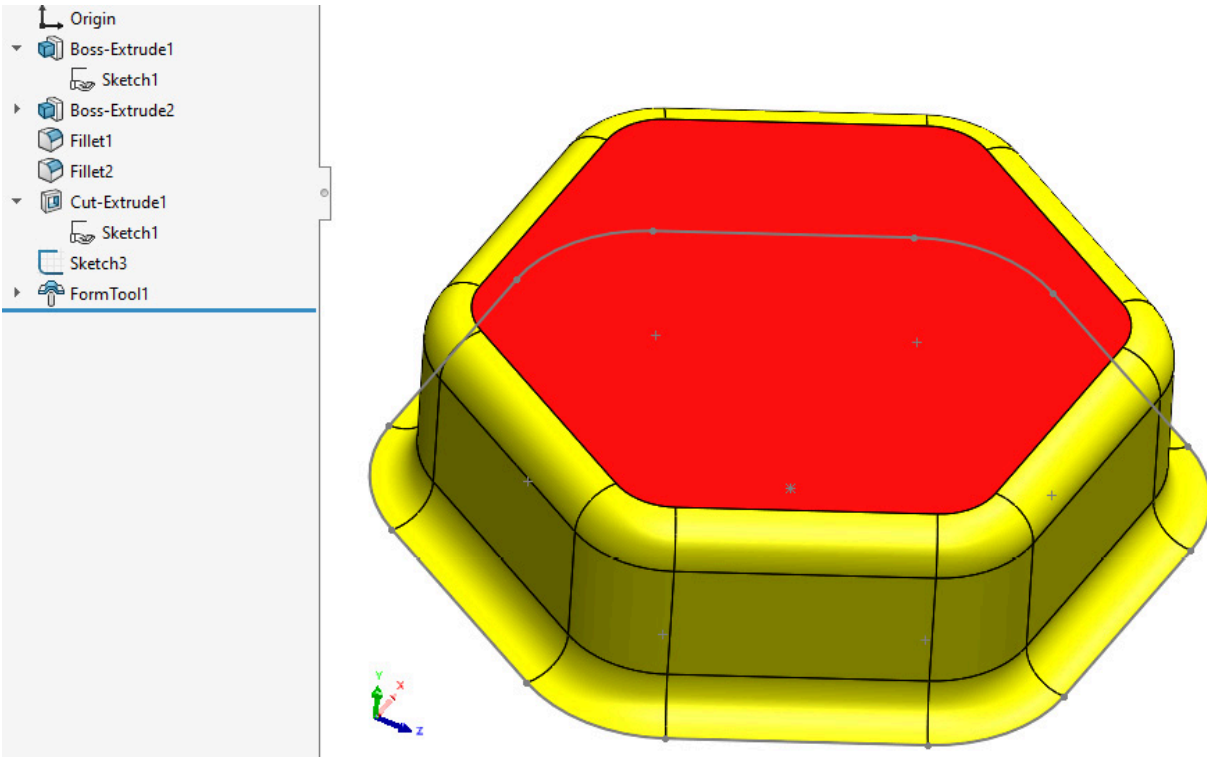

Figure 10.20: The created Form Tool
13. Press the green **OK** check mark to create a **Form Tool** feature (*Figure 10.20*). Note that the feature appears in the FeatureManager Design Tree and the tool in the Graphics Area is now color-coded. As previously mentioned, yellow indicates bend faces, red indicates faces that will be removed, and cyan (underneath) shows the Stopping Face: